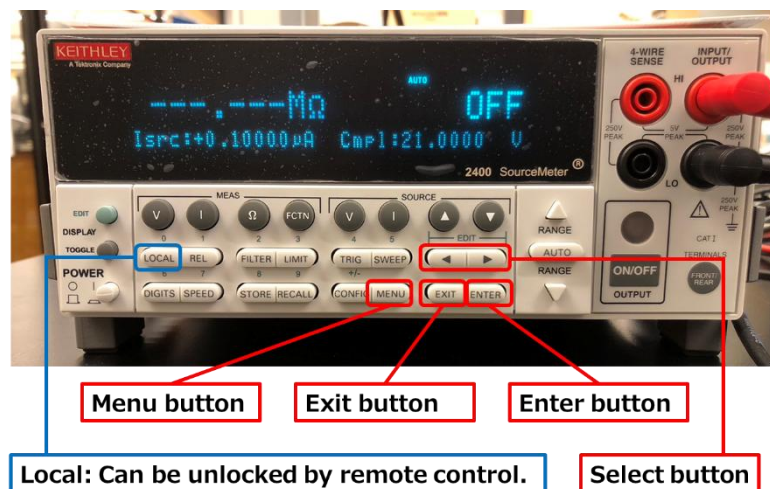

Fig 4 Front panel of 2400s
- ① Press the Menu button. (Fig4)
- ② Select Communication and press Enter.
- ③ Select RS-232 and press Enter.
- ④ Select BAND and press Enter. Select 9600 and press Enter.
- ⑤ Select BITS and press Enter. Select 8 and press Enter.
- ⑥ Select PARITY and press Enter. Select EVEN and press Enter.
- ⑦ Select THERMINATOR and press Enter. Select <CR+LF> and press Enter.
- ⑧ Select FLOW-CTRL and press Enter. Select XON-XOFF and press Enter.
- ⑨ Press the Exit button twice to return.